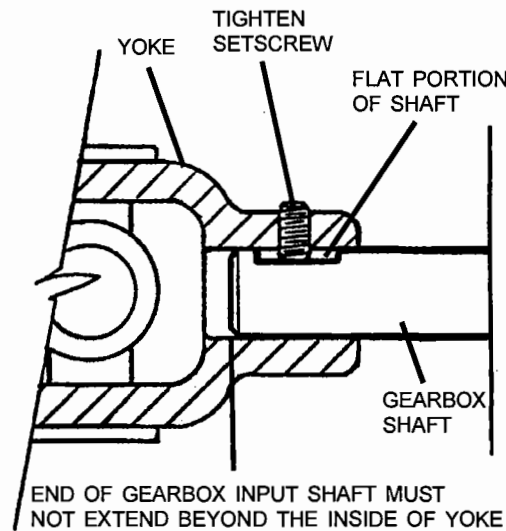

FIG. 56
- Step 1. Attach PTO driveline to gearbox input shaft by using 1/4" x 1 1/2" long square drive key. See Fig. 55. Secure PTO driveline to gearbox shaft by tightening setscrews in PTO driveline yoke. See Fig. 56 on page 42.
IMPORTANT: For setscrew to be properly engaged on the gearbox input shaft, the gearbox input shaft **MUST** be slid into the PTO driveline yoke until the setscrew will sit on flat portion of shaft. (See Fig 56.) Do not extend the gearbox input shaft beyond the inside end of the yoke.